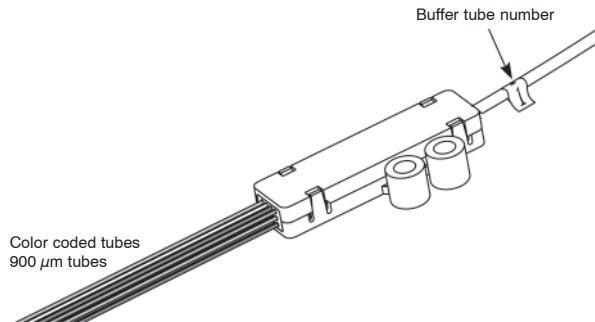

Figure 29
10.1 To aid in the identification and maintenance of the fan-out assemblies, use numbered wire markers to individually identify each BTF with respect to its buffer tube number if the buffer tubes are not easily distinguished (Figure 29).